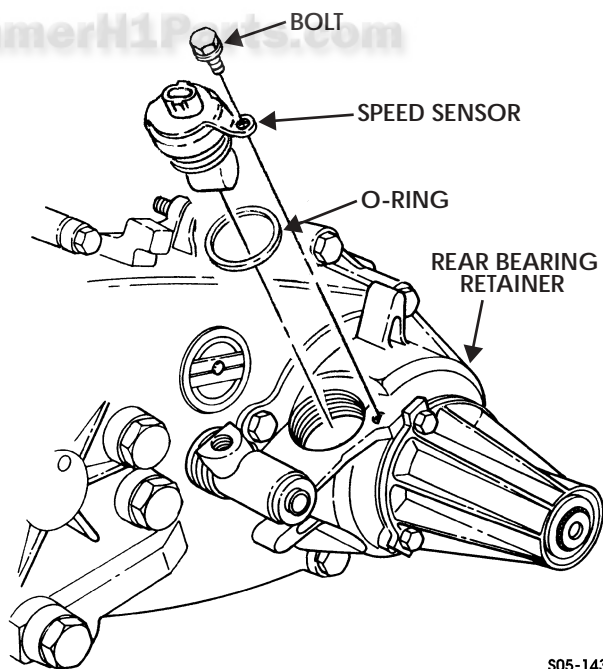

Figure 5-186: Speed Sensor
48. Install O-ring and speed sensor in rear bearing retainer with bolt. Tighten bolt to 15 lb-in. (2.0 N•m) (Figure 5-186).